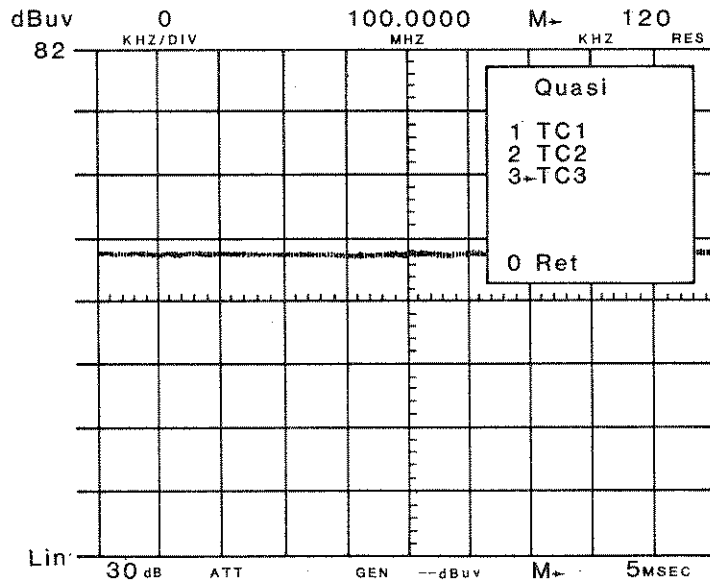

Figure 7-12 Frequency in Question With Quasi-Peak Activated
9. Select the Quasi-Peak Filter Menu (Press: "4"). Refer to Figure 7-12 and to Appendix D to compute the Signal Amplitude at the Frequency in question.
In Figure 7-12, the Signal Amplitude level is approximately 4.85 divisions above the bottom graticule on the display. The X value, from Table D-1, is -4.35. The Top of Scale is 82 dBuV. Using the equation for Signal Amplitude ($A = T + X$), the calculated Signal Amplitude is 77.65 dBuV.